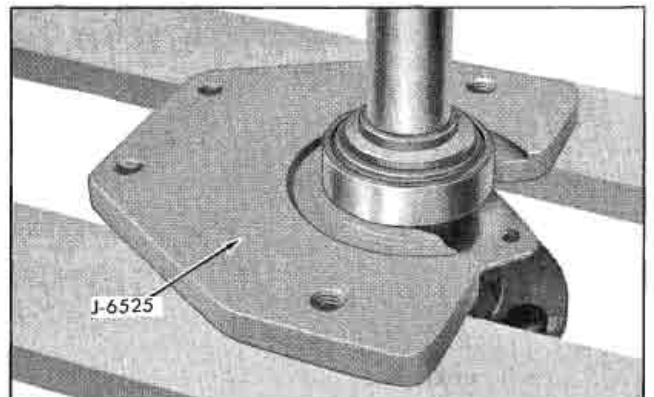

Fig. 4-16 Pressing Bearing From Axle
a. With tool J-947-P engaging outer race of bearing and ring enclosing bearing (Fig. 4-16), press shaft from bearing using arbor press.